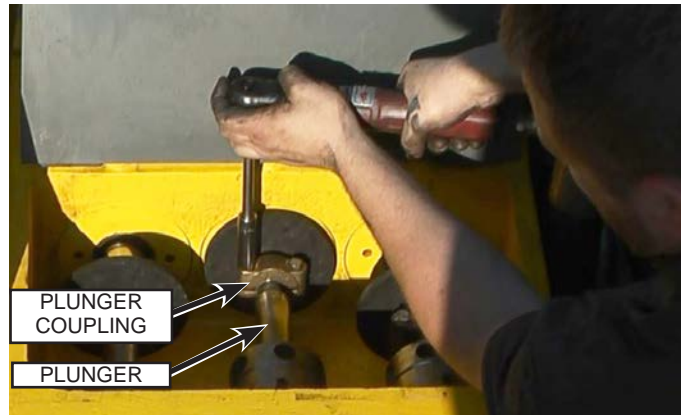

Fig. 67: Plunger Coupling Removal
7. Remove the two bolts that secure the plunger coupling (Fig. 67) to the plunger and remove the coupling. Push the plunger into the stuffing box for clearance.